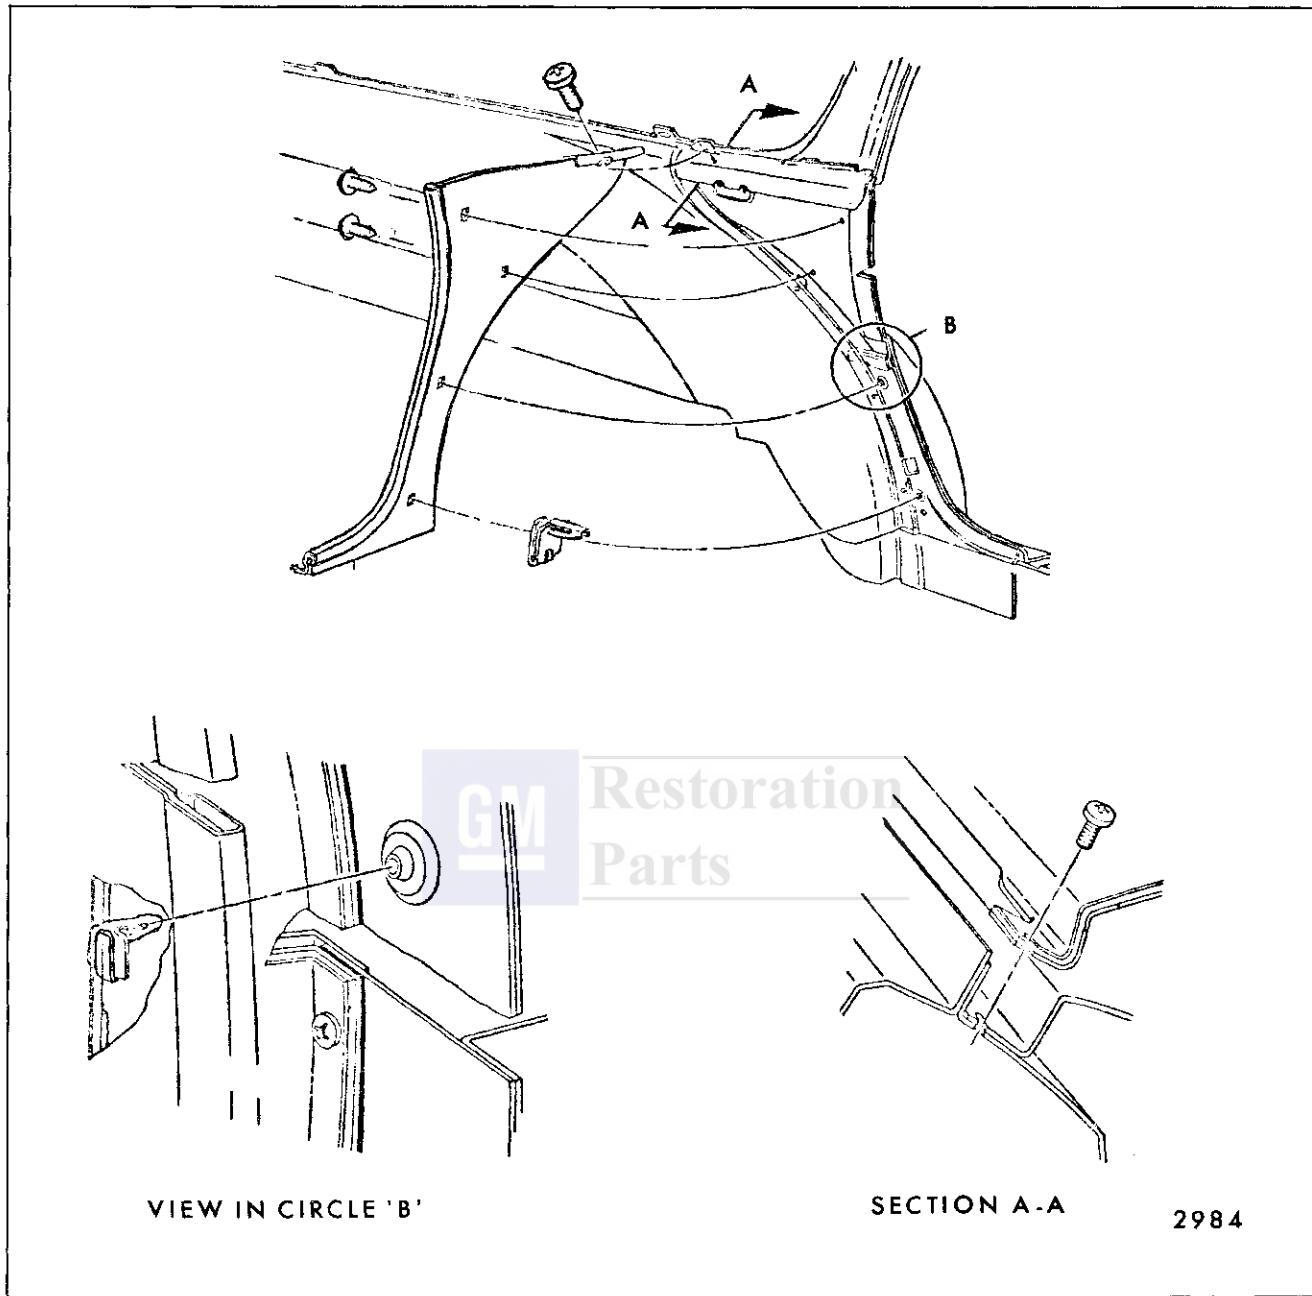

Fig. 14-31—Rear Quarter Front Trim Panel — "A" Station Wagons
3. Remove screws securing trim panel as shown in Figure 14-31.
4. Using a flat blade tool, disengage trim panel retaining clips from plastic retaining plugs in inner panel as shown in Figure 14-31 and remove trim panel.